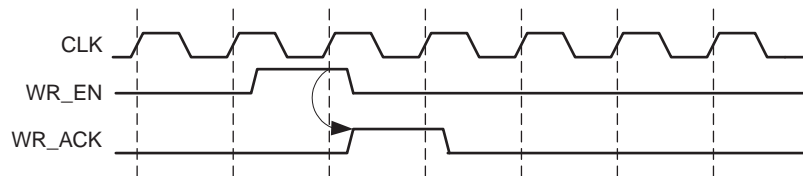

Figure 3-35: Latency 0 Timing
**Note:** Latency is defined as the number of clock edges after a read or write operation occur before the signal is updated. Example: if latency is 0, that means that the signal is updated at the clock edge in which the operation occurred, as shown in Figure 3-35 in which WR\_ACK is getting updated in which WR\_EN is high.